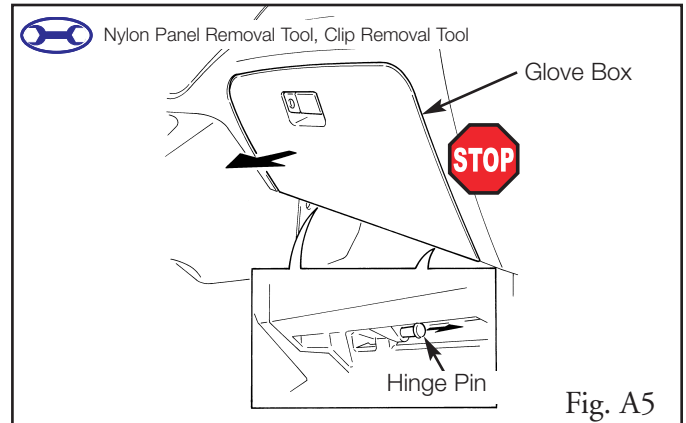

Fig. A5
5. Remove the glove box. (Fig. A5)